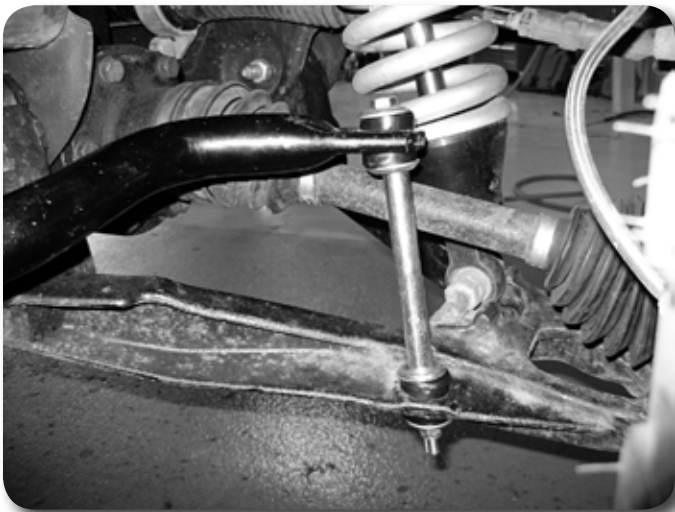

Figure 41
71. The new sway bar links will be built from a 5" sleeve, 3/8" x 9" bolt, bushings and cup washers. Attach these to the sway bar followed by the control arm with the bolt going from the top down. **Figure 41** Tighten the sway bar link until the bushings begin to form to the control arm surface.